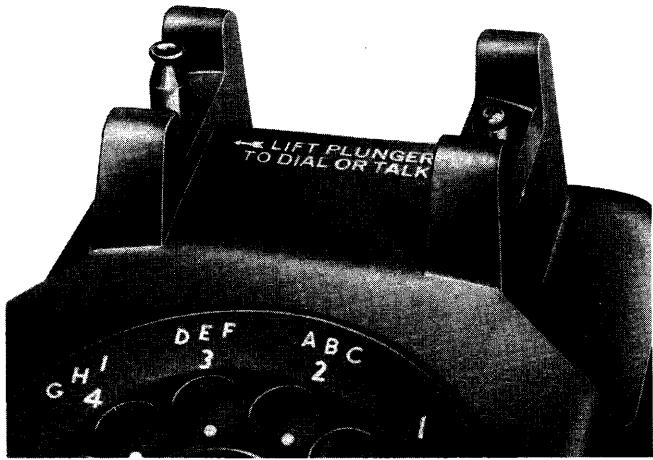
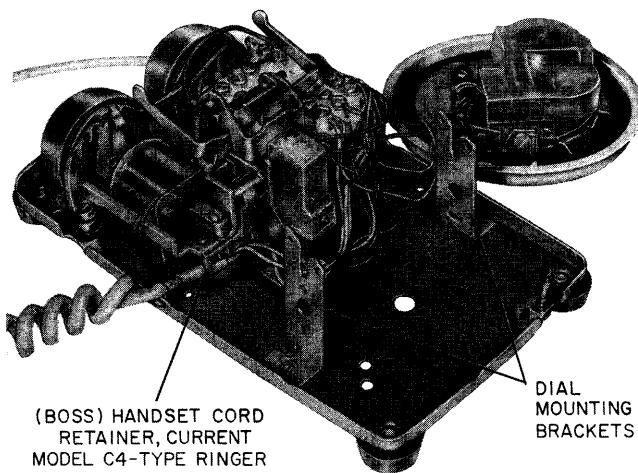

Fig. 5—500F (MD) or 501F (MD) Telephone Set, Plunger Switch
Fig. 6—500L/M (MD) Telephone Set, Interior View
- (1) Equipped with plunger switch (Fig. 5) to avoid interference with dialing or talking of another customer on a party line.
- (2) With set off-hook, only the receiver is bridged on the line as a monitor until the plunger switch is lifted to connect the talking and dialing circuits.
- (b) **500L/M(MD) and 500MM:**
- Current model sets are not equipped with a terminal strip (Fig. 6).
Note: Current model C4-type ringers are equipped with a handset cord retainer (boss) (Fig. 6) for use with nonmodular 500- and 501-type telephone sets.